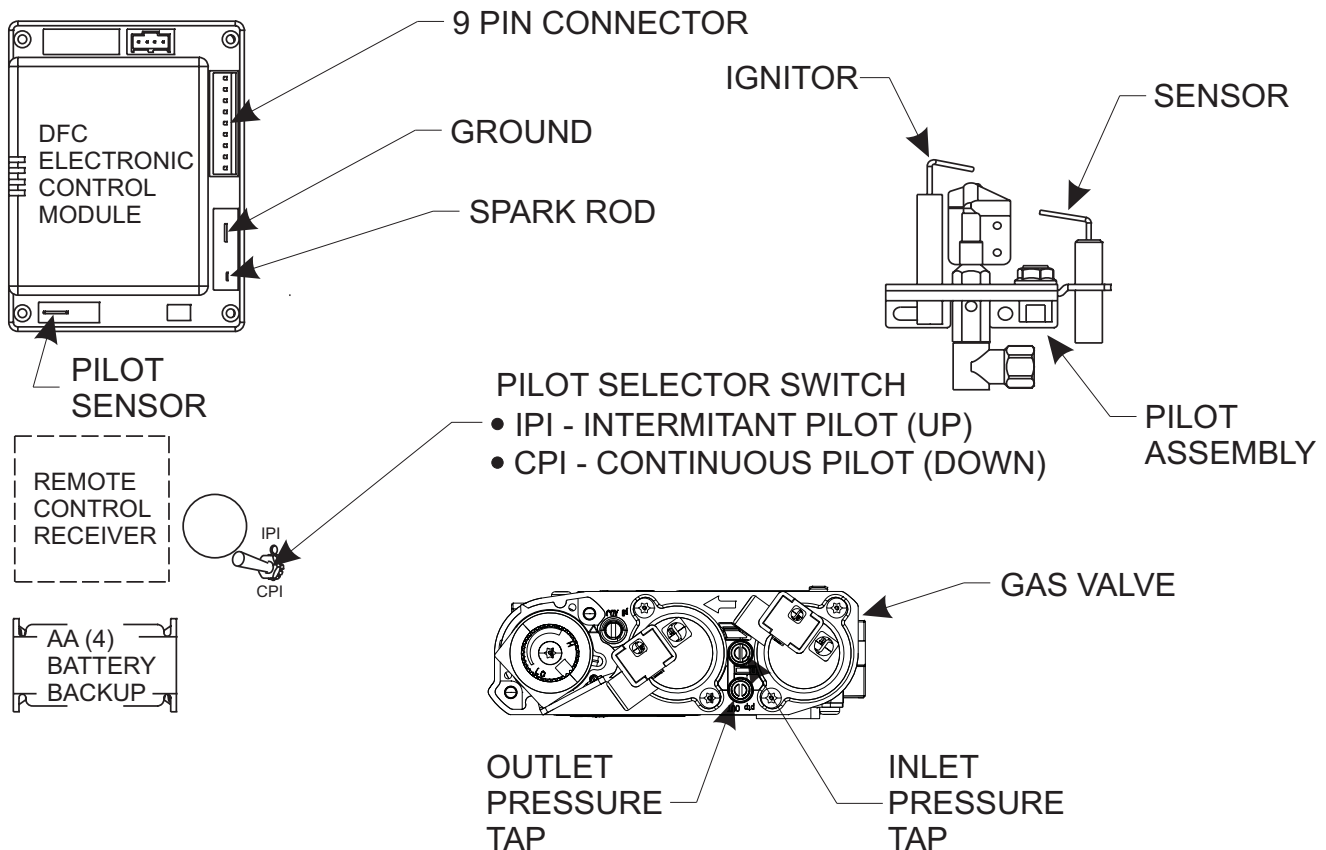

Figure 23
Note: A small toggle switch is located on a bracket that is used to switch from IPI (upward position) to the CPI (downward position). See Figure 23.
3. The gas valve has inlet and outlet pressure taps as shown in Figure 23. Refer to pages 10 and 11 for gas pressure requirements.
**Note:** The gas control has a manual HI/LO flame adjustment knob (regulator) that allows you to increase or decrease the height of the burner flame. See Figure 23. Rotate the HI/LO knob counterclockwise to "HI" to increase the flame height, and clockwise to "LO" to decrease the flame height.